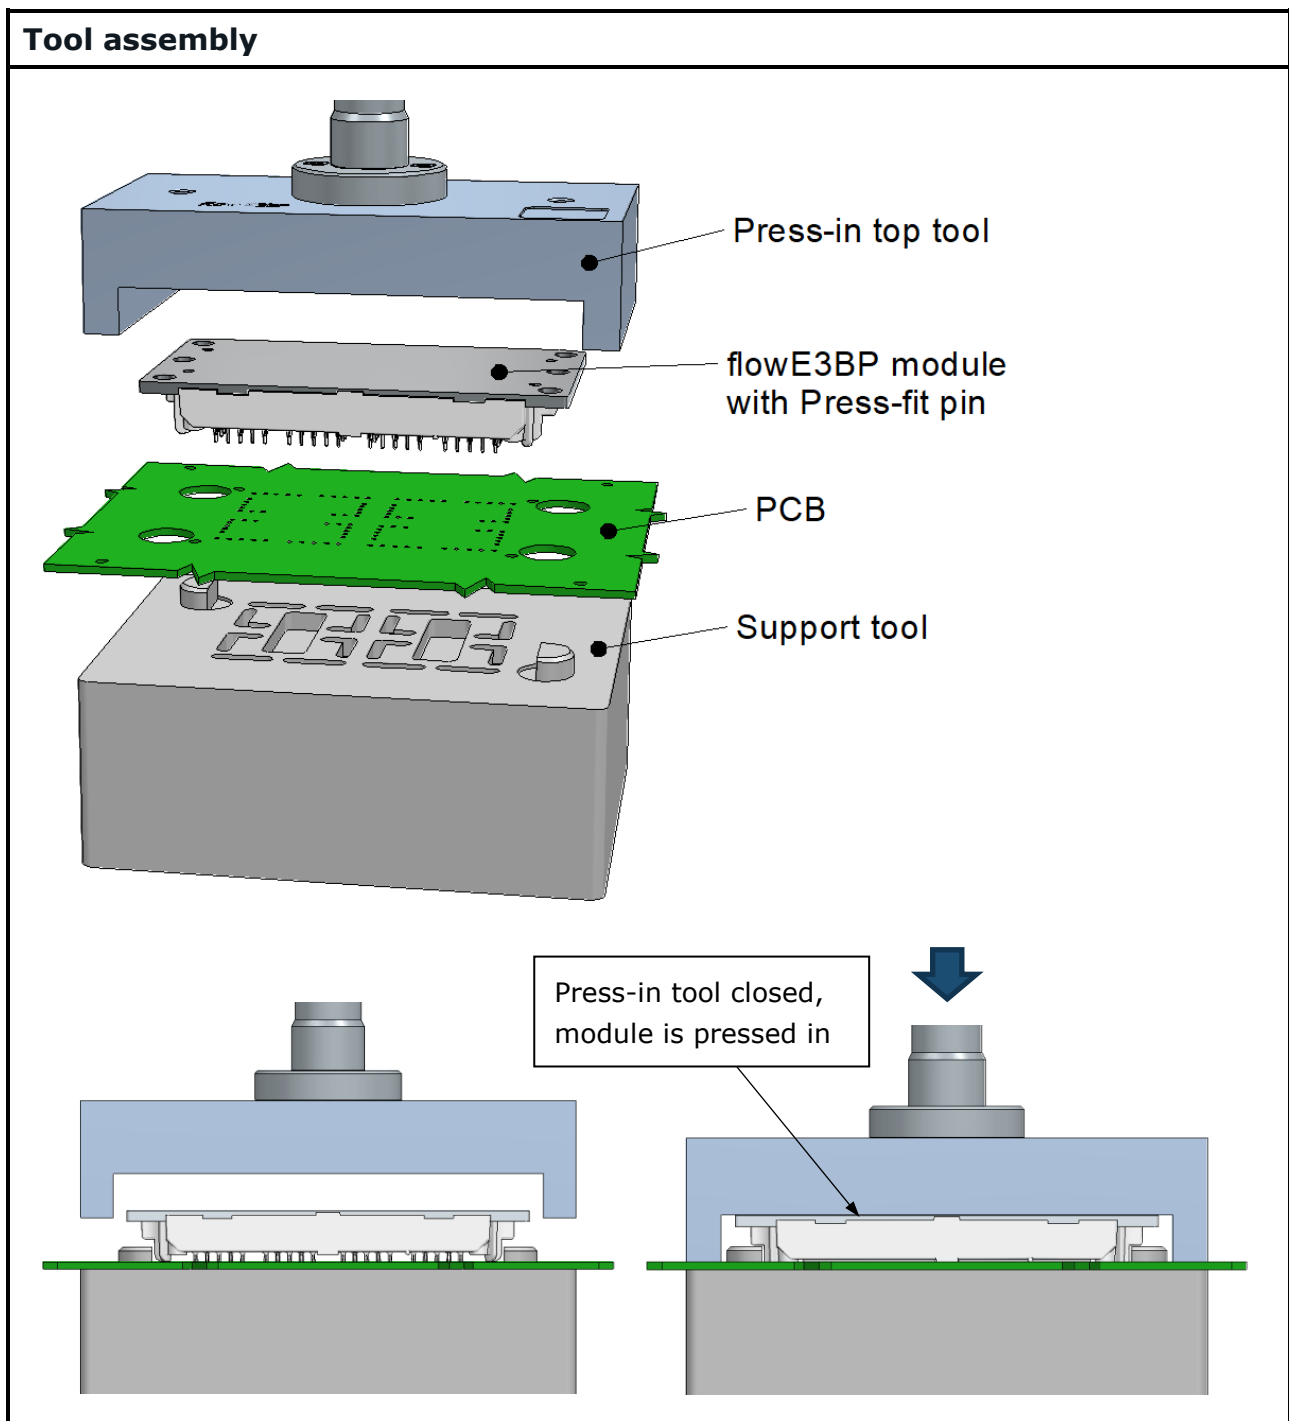

Figure 17: Recommended construction for the press-in process
- The module can be pressed into the PCB from the top (as Figure 17) or the PCB can be pressed onto the module from the top (the module is below the PCB).
This condition is automatically fulfilled with the use of the recommended press-in tool. Figure 17 shows the closed press-in tool with the module.